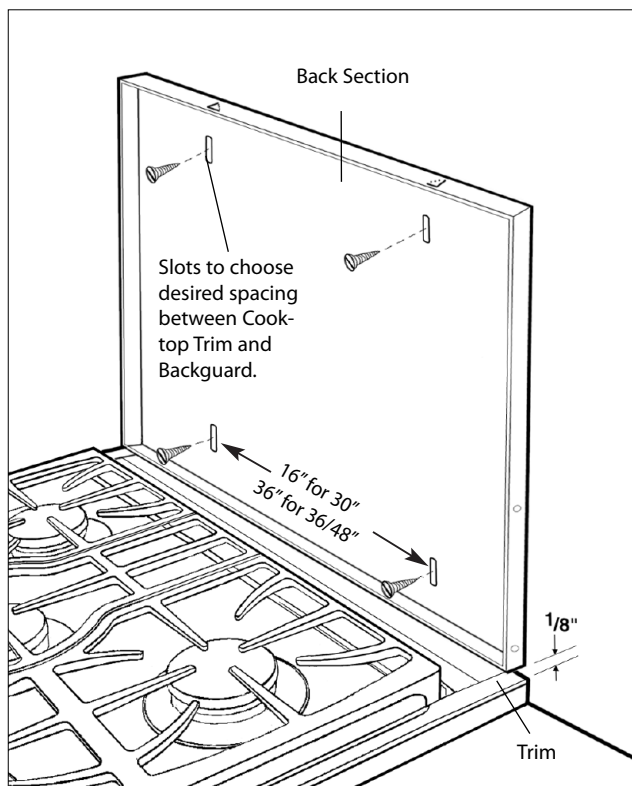

Fig.03
2. After unpacking all backguard system parts, locate the Back Section 1/8" (see fig. 03) above and centered over the Trim attached to the cooktop.\* Secure Back Section to wall with the appropriate fasteners (not supplied) to anchors or wood stud (fig. 03).